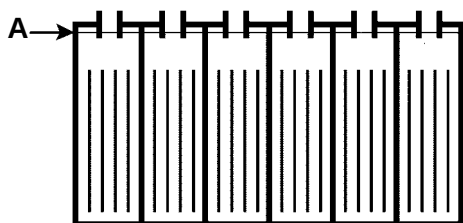

FIG. 28
2. After charging, check fluid level (A). Fluid level should be within 3mm (0.13 in) of full level indicator. Add distilled water if needed. **DO NOT OVERFILL.** Overfilled batteries can overflow during charging due to fluid expansion (Figure 28).